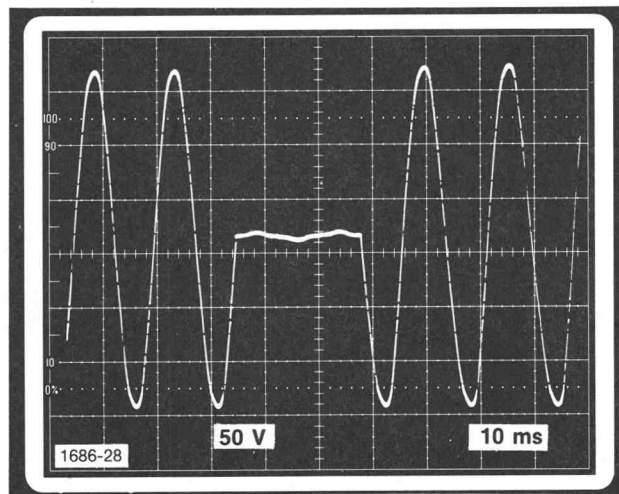

Figure 4-19. Heater Control Waveform.
- 2) CHECK—for a pulsed heater control waveform as shown in Figure 4-19.